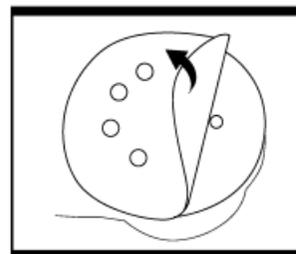

Fig. 1
1. CHANGING SANDPAPER (Fig. 1)